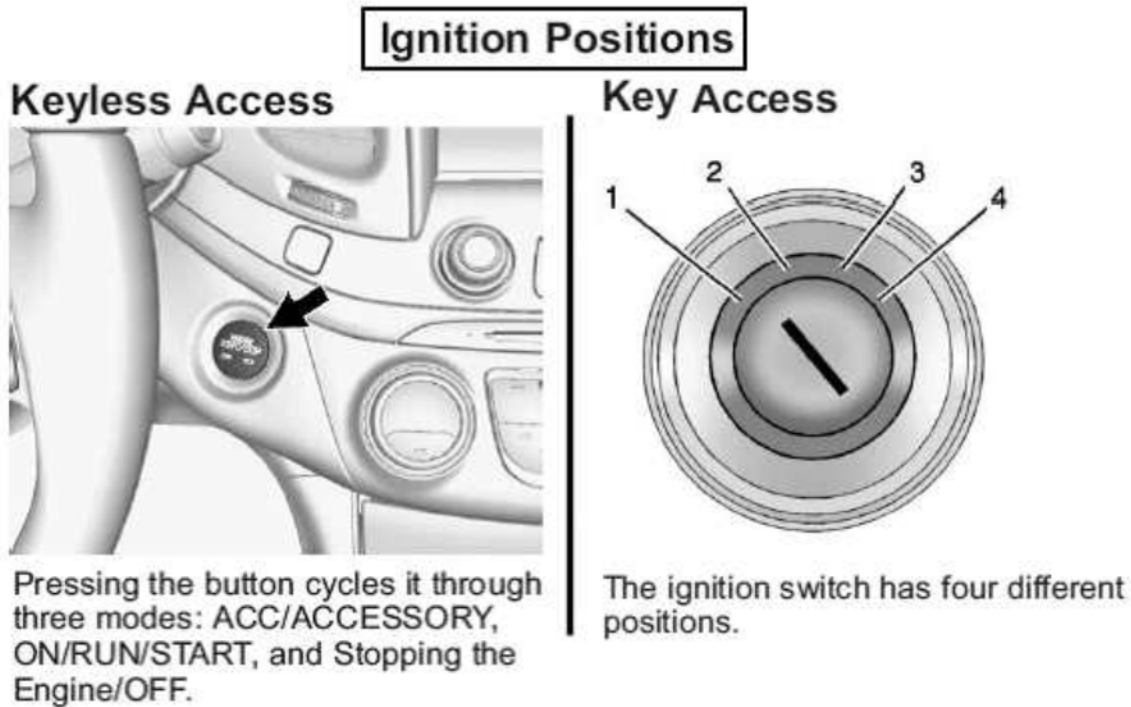

Fig. 7: Ignition Positions (Key & Keyless)
3. Turn the ignition to ON/ RUN with the engine OFF or place the vehicle power mode in ON/ RUN/ START. See Fig. 7.